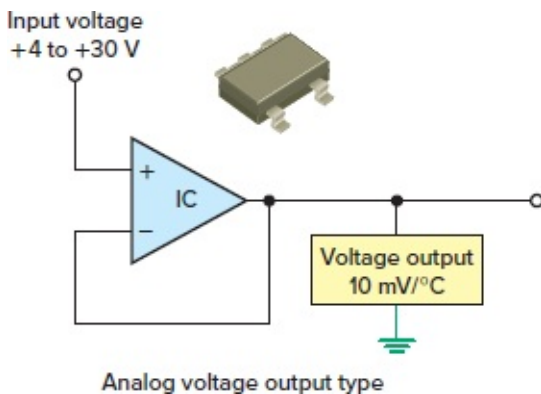

Figure 4-61 Integrated circuit temperature sensor.
Integrated Circuit Integrated circuit (IC) temperature sensors (Figure 4-61) use a silicon chip for the sensing element. Most are quite small, and their principle of operation is based on the fact that semiconductor diodes have temperature-sensitive voltage versus current characteristics. Although limited in temperature range (below 200°C), IC temperature sensors produce a very linear output over their operating range. There are two main types of IC temperature sensors: analog and digital. **Analog** sensors can produce a voltage or current proportional to temperature. **Digital** temperature sensors are similar to analog temperature sensors, but instead of outputting the data in current or voltage, they convert the data into a digital format of 1s and 0s. Digital-output temperature sensors are therefore particularly useful when interfacing to a microcontroller.